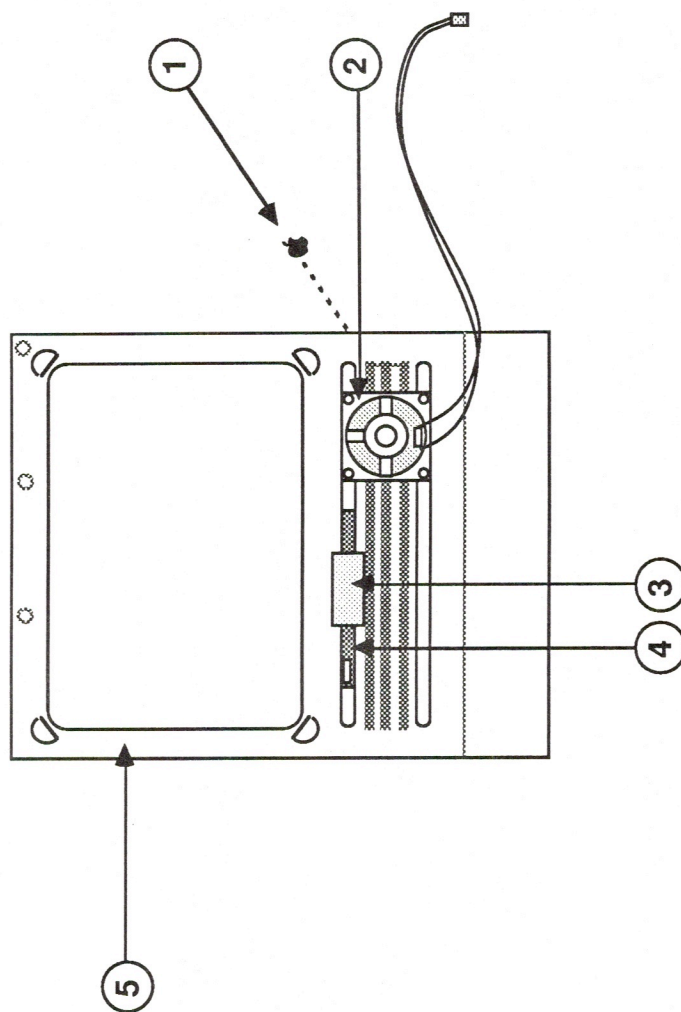

FIGURE 3
IPL.7	Front Bezel (Figure 3)
□ MACINTOSH SE – FRONT BEZEL (Figure 3)